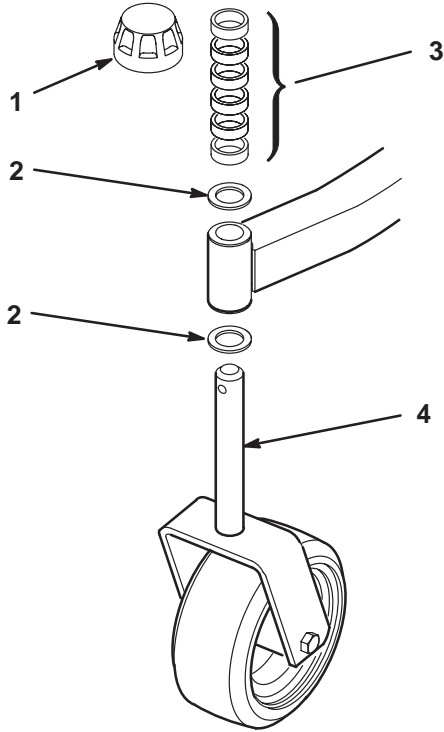

Figure 2
1. Remove the tensioning caps from the spindle shafts and slide off the spacers and thrust washers (Fig. 2 and 3).